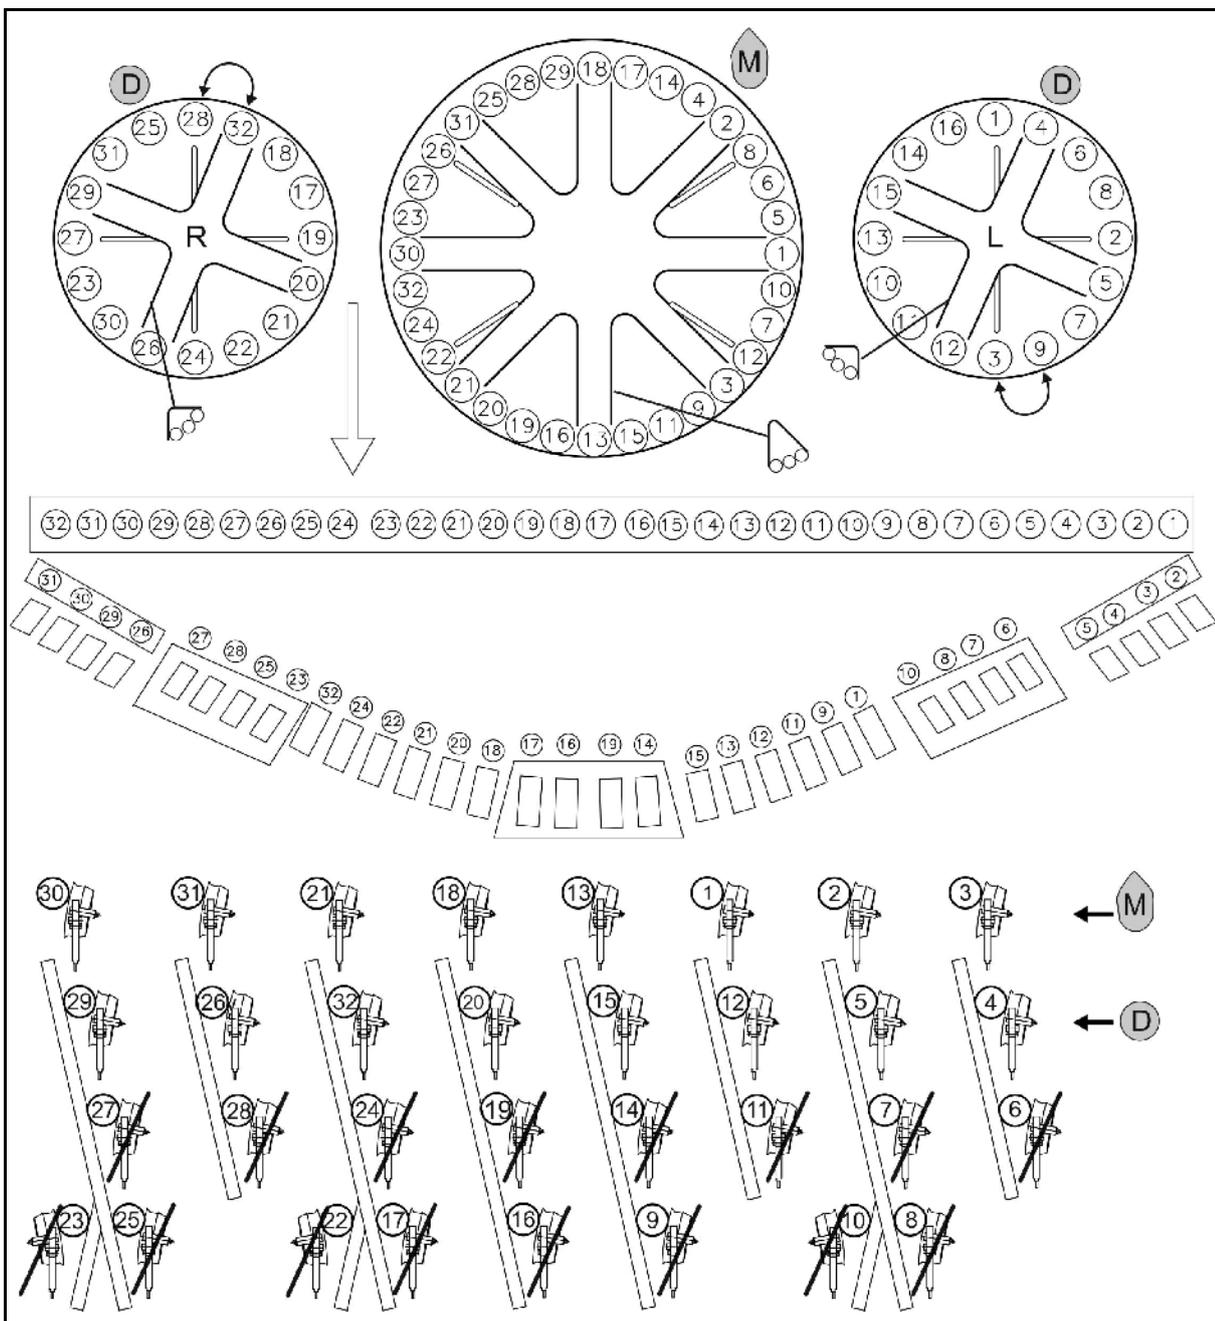

Fig. 48
- Maize ^M: Install the locking plates according to Fig. 48.
- Fertiliser ^D: Install the locking plates according to Fig. 48.